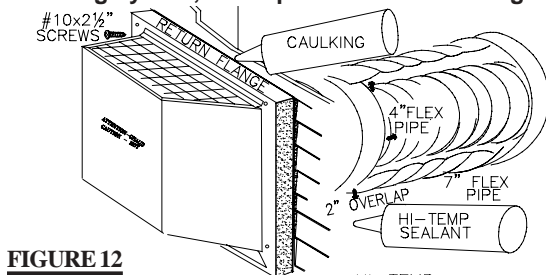

FIGURE 12
5. Thread the air terminal pipe assembly down through the roof support and attach, ensuring that a minimum 16" of air terminal will penetrate the roof when fastened. **FIGURE 17.** If the attic space is tight, we recommend **threading the Wolf Steel vent pipe collar or equivalent loosely onto the air terminal assembly as it is passed through the attic.** **FIGURE 12.** The air terminal must be located vertically and plumb.